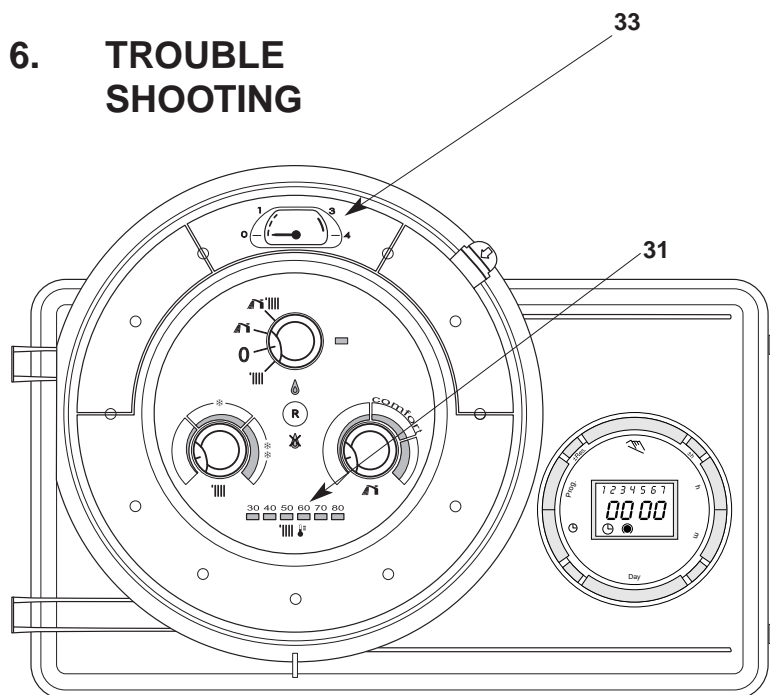

FIG. 6.1
- Once the pressure gauge **33** (Fig. 6.1) reads between 1 and 1.5 bar close the levers on both the cold water connection and the C.H. return connection